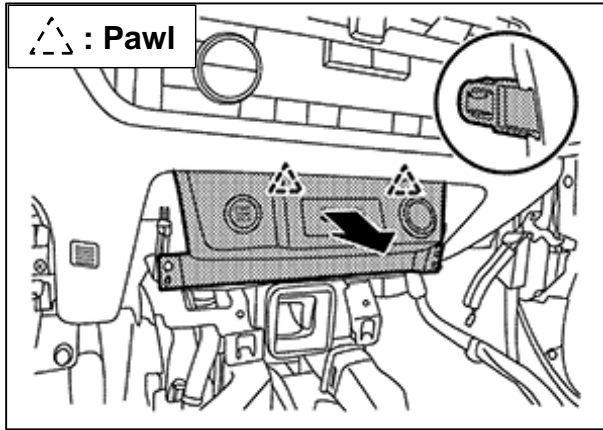
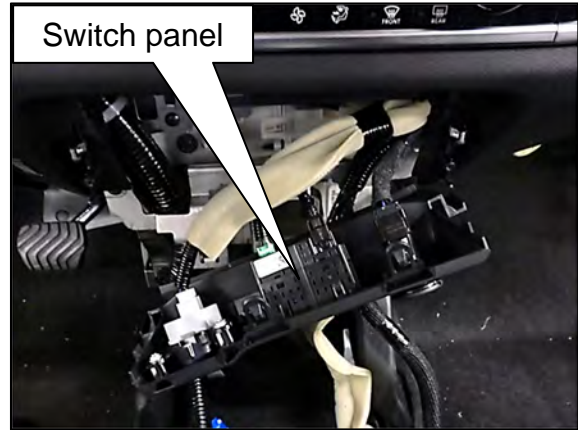

Figure 65
Figure 66
45. Disengage the two (2) switch panel fixing pawls, as indicated by the arrow in Figure 65, and then pull out the switch panel (Figure 66).